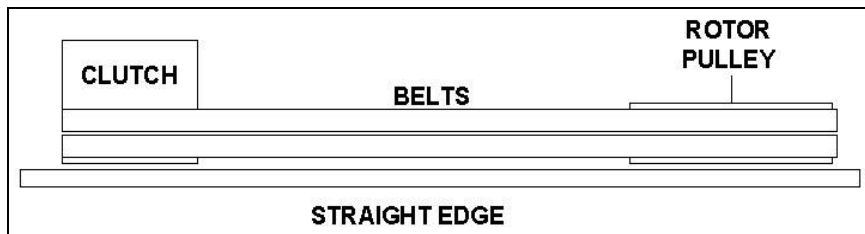

Figure 2
- Check alignment of the clutch (item #47) with the drive pulley (item #22) by placing a straightedge across both faces as shown in figure 2. If adjustment is necessary, correct alignment by moving rotor pulley in or out on the rotor shaft. Do not make adjustment by moving the clutch on the engine shaft.